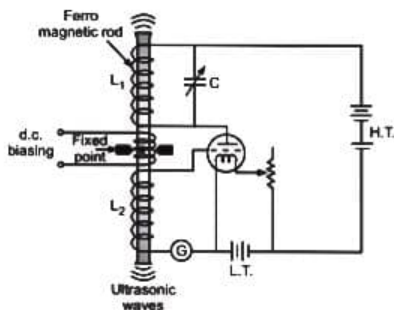

Fig. 1.10: Magnetostriction oscillator
- Fig. 1.10 shows the experimental set up of magnetostriction oscillator. It consists of a permanently magnetised nickel or iron rod (magnetised initially by passing direct current in the coil which is wound around it). The rod is clamped at the centre. The two coils L_1 and L_2 are wound over the rod.